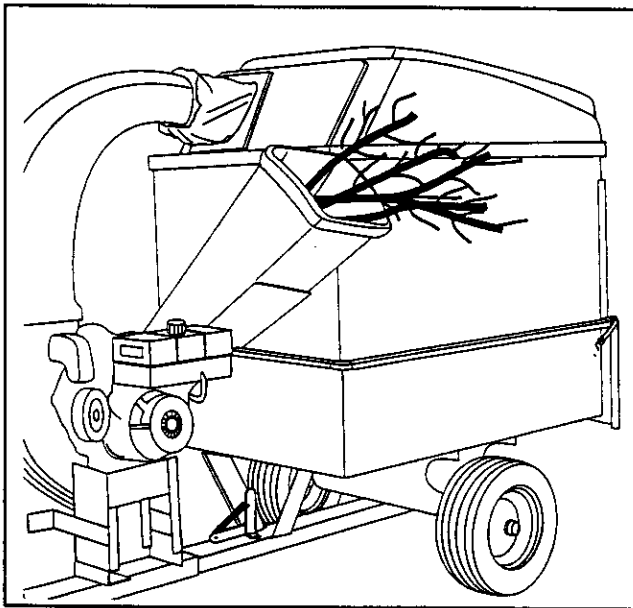

FIGURE 37
- Material such as stalks or heavy branches up to 3" in diameter may be fed into the chipper chute as shown in figure 37.